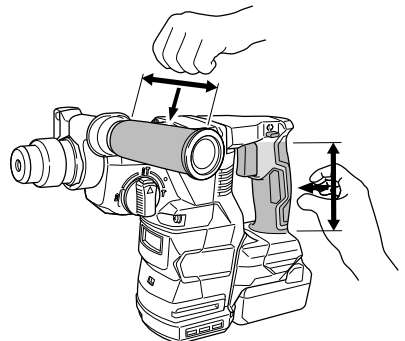

Fig. 1
23. Make sure to securely hold the tool as shown in Fig. 1 during operation.